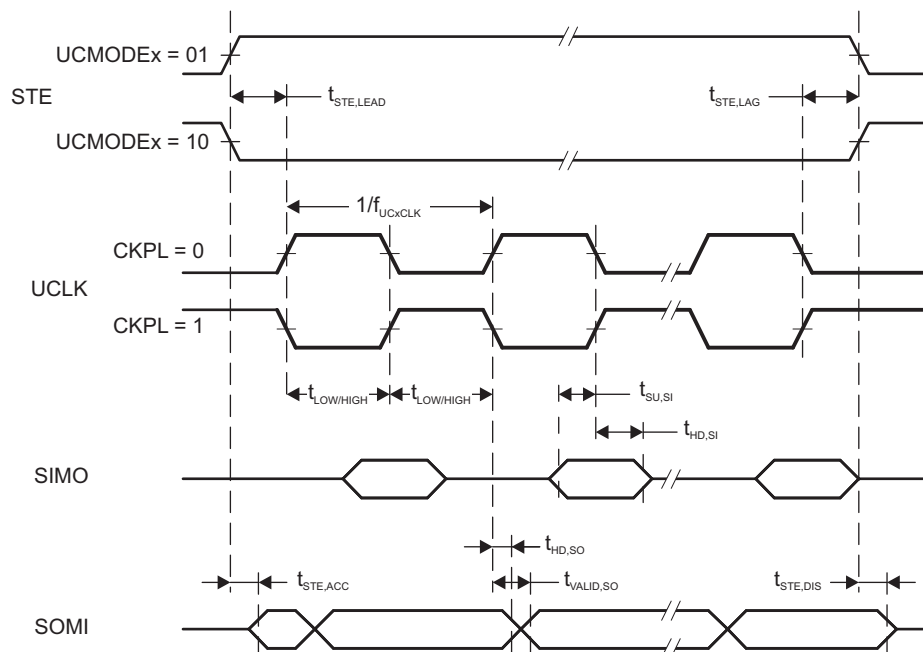
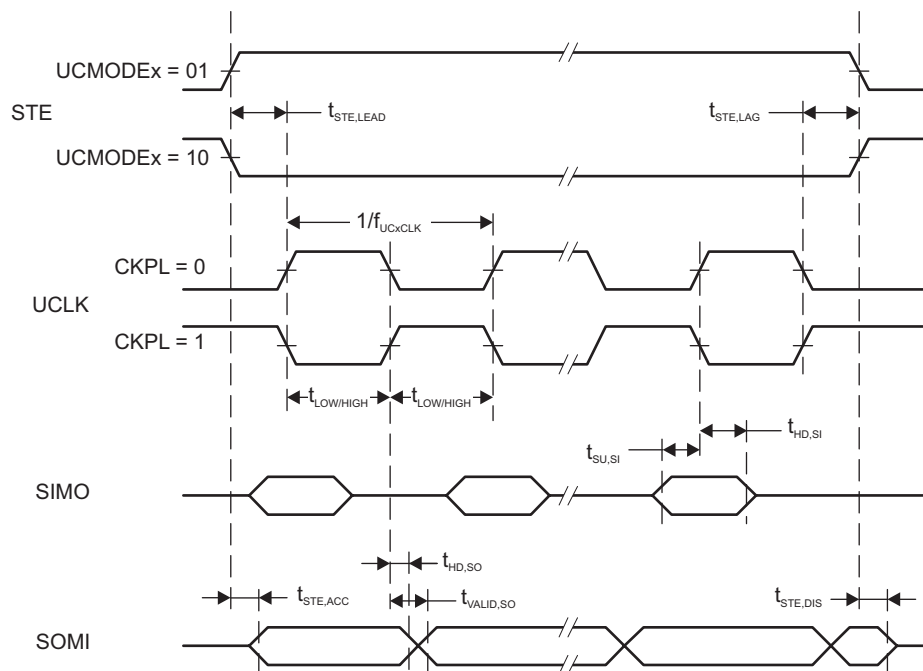

Figure 5-71. SPI Slave Mode, CKPH = 0
Figure 5-72. SPI Slave Mode, CKPH = 1
(2) Specifies the time to drive the next valid data to the SOMI output after the output changing UCLK clock edge. See the timing diagrams in Figure 5-71 and Figure 5-72.
(3) Specifies how long data on the SOMI output is valid after the output changing UCLK clock edge. See the timing diagrams in Figure 5-71 and Figure 5-72.